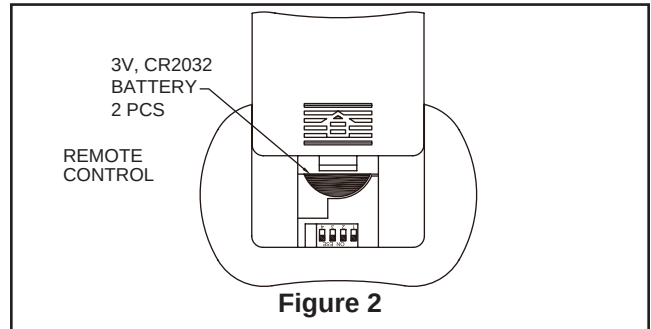

Figure 2
- ☐ 2. To make fan operational, install two piece of 3-volt battery in hand-held remote transmitter, (if not using for long periods of time, remove battery to prevent damage to transmitter). Store the remote away from excessive heat or humidity (Figure 2).